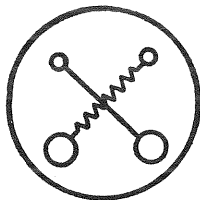

Fig. 5—Bottom View of UP-591 Base Showing Internal Connections
- a. Open resistor in UP-591. Refer to section 23 and Fig. 5.